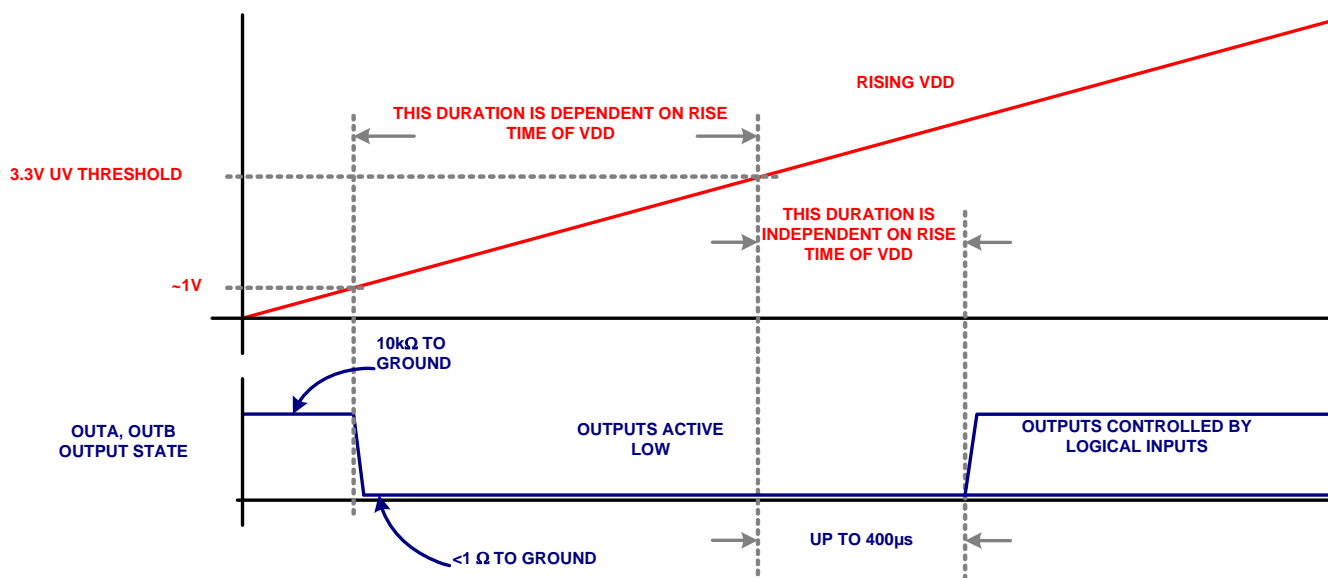

FIGURE 9. START-UP SEQUENCE
- A 400 μs delay further inhibits the release of the output state when the UV positive going threshold is crossed. See Figure 9
ground, help to keep the gate voltage close to ground. When $\sim 1V < V_{DD} < UV$, both outputs are driven low while ignoring the logic inputs. This low state has the same current sinking capacity as during normal operation. This insures that the driven FETs are held off even if there is a switching voltage on the drains that can inject charge into the gates via the Miller capacitance. When $V_{DD} > UVLO$, and after a 400 μs delay, the outputs now respond to the logic inputs. See Figure 9 for complete details.